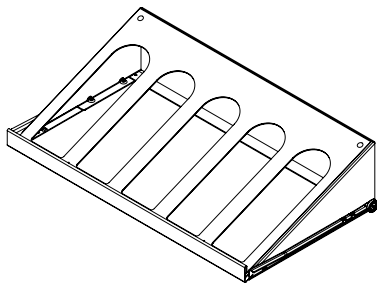

Figure 33
- (1) Five bottle rollout display rack with vibration dampening mat (See Figure 33).